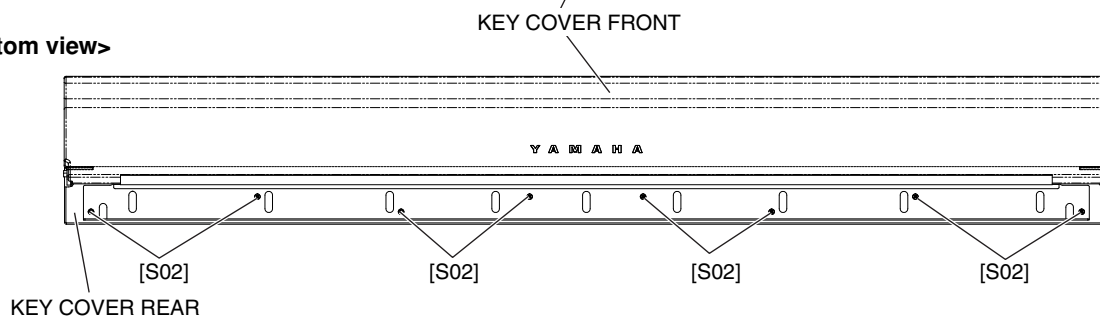

Fig. 1
- 1) Remove the eight (8) screws marked [S02] and remove the key cover rear. (Fig. 1)
- 2) Loosen the four (4) screws marked [S01] holding the damper assembly to the key cover angle and adjust the width of the damper assembly. (Fig. 1)
- 3) Install the key cover rear to the key cover assembly and install to the main unit. (Fig. 1)